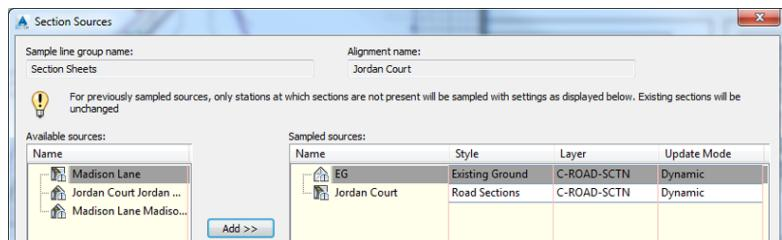

FIGURE 10.10 Sampling additional sources using the Section Sources dialog box
5. Verify that the Section Sources dialog box looks like Figure 10.10, and then click OK.